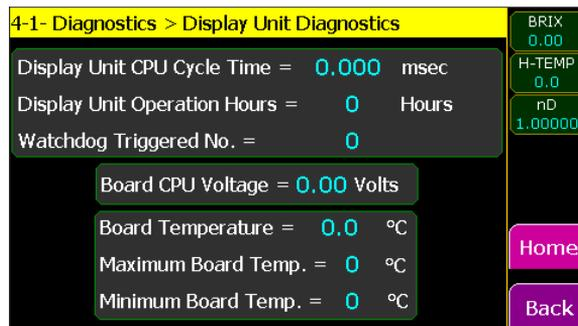
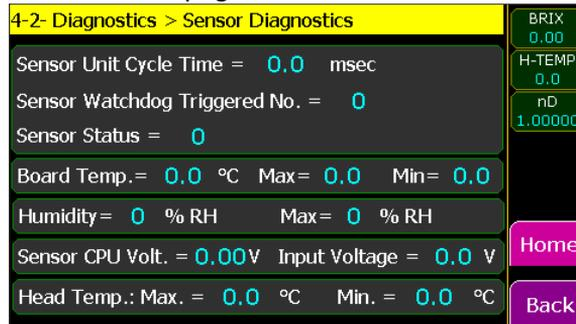

Figure 8-4 Display/Control unit Diagnostics page
Figure 8-5 Sensor Diagnostics page
The **Figure 8-4** below shows this page.
- If each one of the Control/Display unit parameters shown in **Figure 8-4** exceeds their range check the troubleshooting guides in **Section 8.1** and **Section 8.2**. If the problem remained then you can contact to the local Support & Service center of **PrismaTech®**.
The Figure 8-5 below shows this page.
- If each one of the Sensor unit parameters shown in **Figure 8-5** exceeds their allowable range check the troubleshooting guides in **Section 8.1** and **Section 8.2**. If the problem remains then you can contact to the local Support & Service center of **PrismaTech®**.
- ❖ Some of the parameters shown in **Figure 8-4** and **Figure 8-5** causes alarm on the main screen if they exceeds their range.